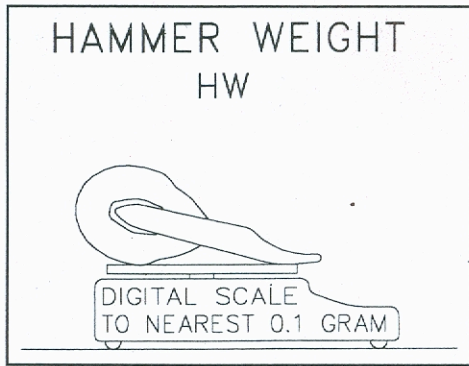
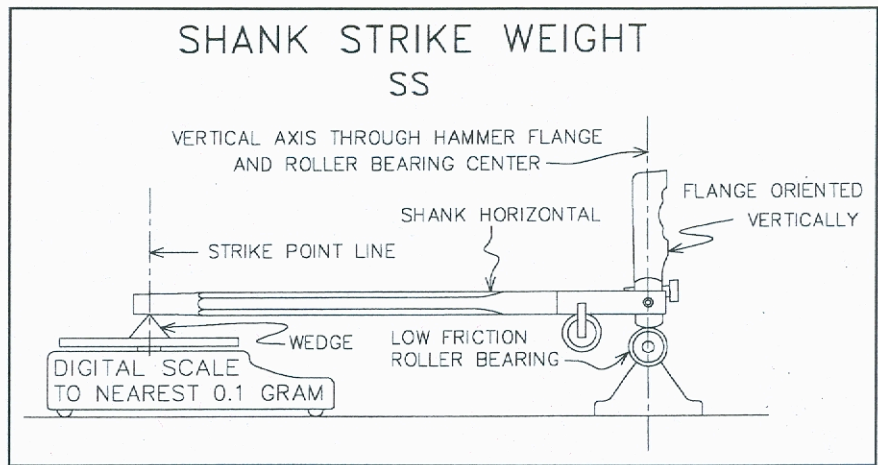

Figure 1
Figure 2
The new component called Shank Strike Weight (SS) is the weight of the shank taken at the strike line radius with the shank set up as for taking Strike Weight (see Fig 2). Shank Strike Weight (SS) and Hammer Weight (HW) (see Fig.1) are the two components of Strike Weight (SW). Strike Weight